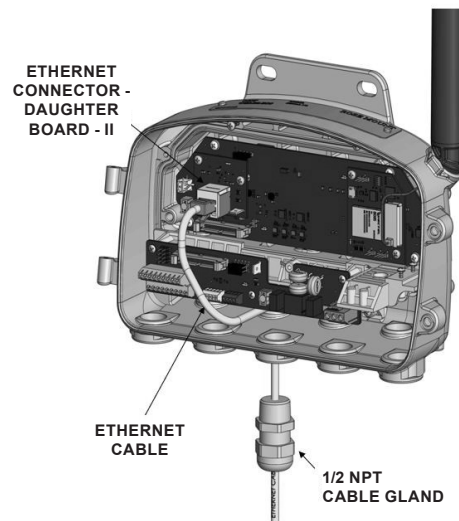

Figure 15. Ethernet Installation
4. **Connect to main board:** Plug the Ethernet cable into the main board as shown in Figure 15.